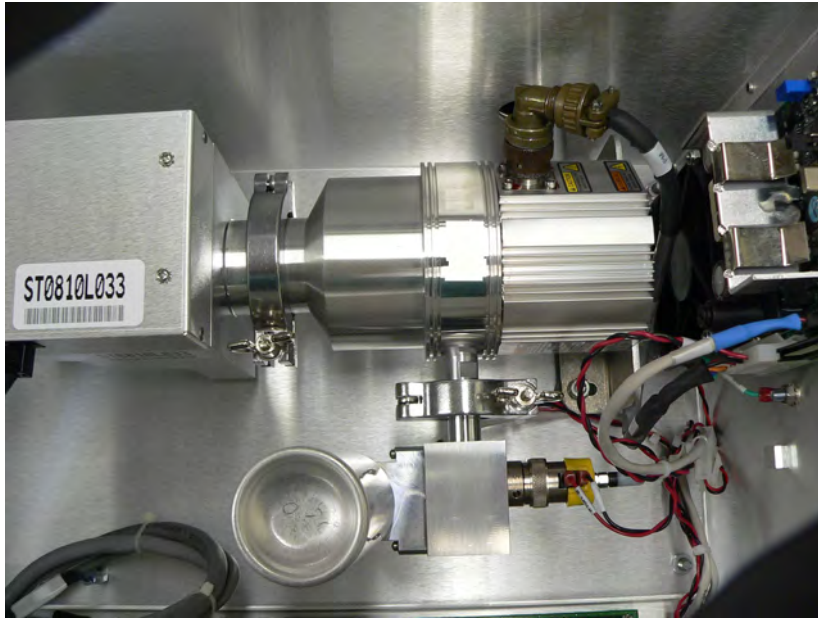

Figure B-18 Calibrated Leak in Place
7. Attach the calibrated leak assembly in the orientation shown using the clamp (Figure B-18).